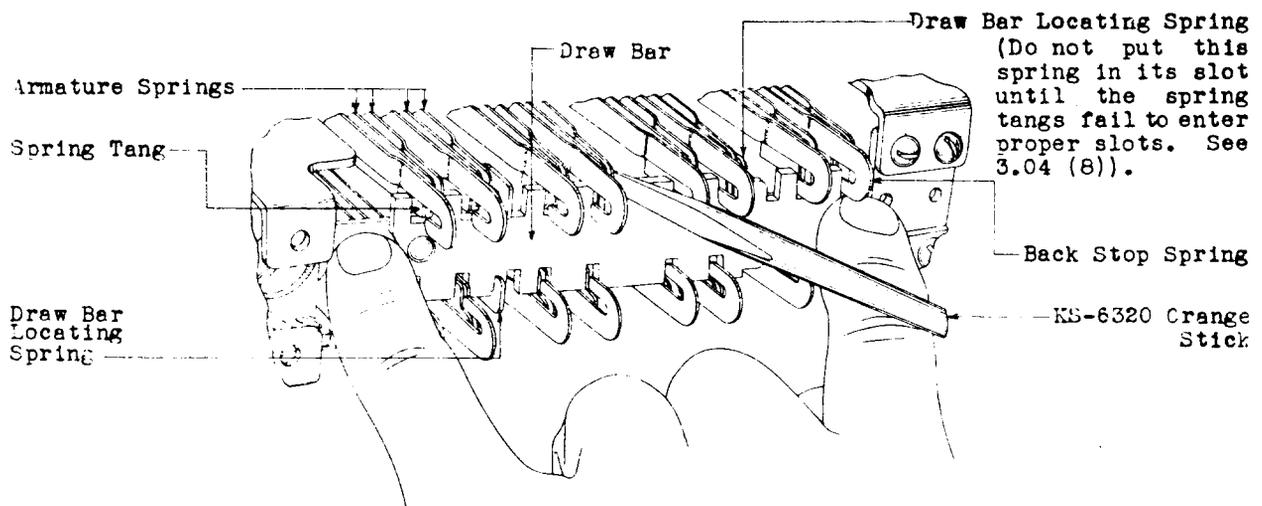

Fig. 16 - Method of Replacing Draw Bar
(8) 232 Type Insert the draw bar in its normal position, so that the tangs of the back stop springs pass through the slots of the draw bar until it comes to rest against the outer edges of the locating springs. Apply an inward pressure to the draw bar at the draw bar pin and at the far rivet head, using the forefinger and fourth finger of the left hand as shown in Fig. 16. With the orange stick in the right hand, move the locating spring which is nearer to the magnet, into the proper slot of the draw bar. Make sure that the draw bar link is not behind the draw bar metallic strip. Starting with the spring assembly nearest the magnet, move the armature springs to the right or left until their tangs slip into the proper slots of the draw bar, still maintaining the pressure as indicated. To facilitate this, it will probably be necessary to rock the draw bar about a vertical axis, pushing the magnet end of it in toward the frame. If it is found impossible to rock the draw bar sufficiently, move it longitudinally away from the magnet until the tangs of the armature springs fall into the slots at the outward end of the draw bar, thus permitting further movement. Proceed away from the magnet until the tangs of the armature springs fail to slip into the proper